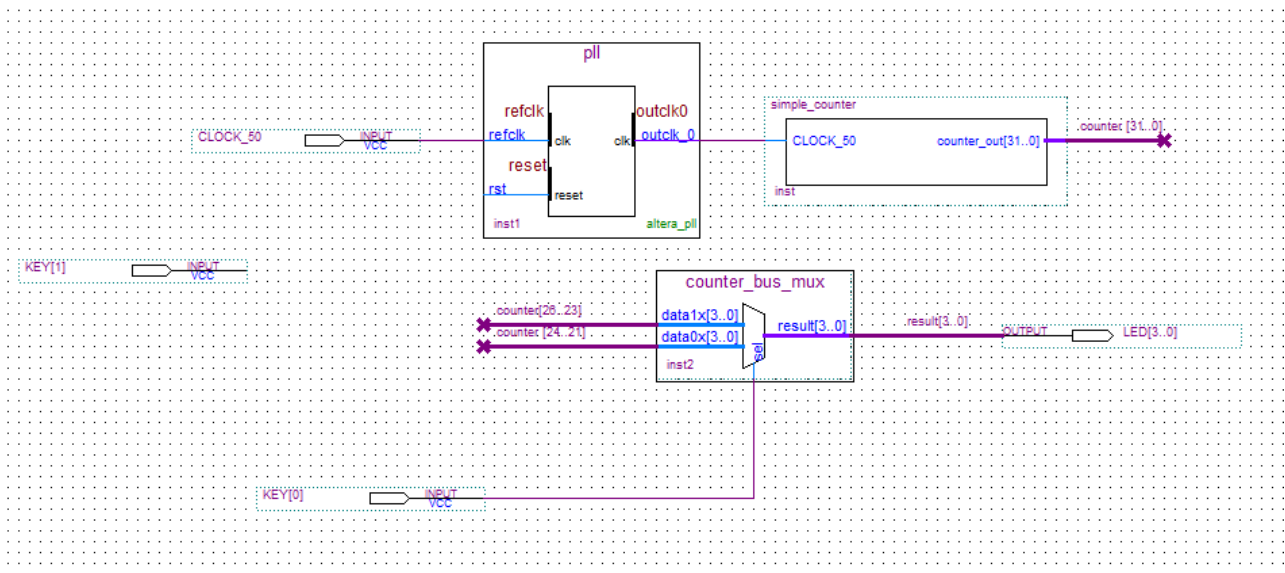

Figure 3-29 Adding the KEY [1:0] Input Pin
23. Place another input pin at the left of the pll and rename it as KEY[1] (see **Figure 3-29**) .